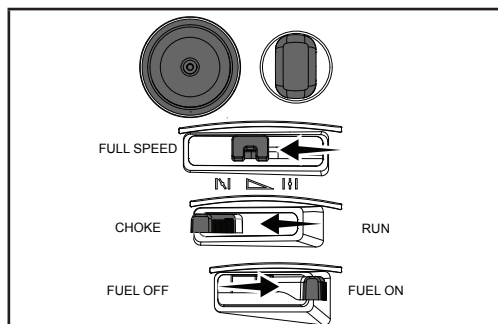

Figure 13
3. To start a cold engine: (Fig. 13).